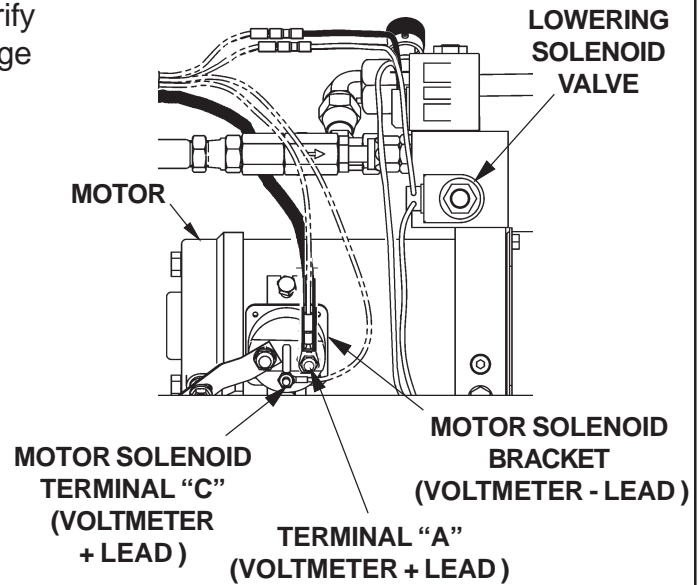

FIG. 47-1
1. Connect voltmeter between Motor Solenoid Terminal "A" and Bracket (**FIG. 47-1**) to verify that battery power is getting to "A". Recharge the battery if voltmeter indicates less than 12.6 Volts DC.
3. Check if Lowering Solenoid Valve is getting power. Connect voltmeter between Motor Solenoid Bracket and Motor Solenoid terminal "C" (**FIG. 47-1**). Push Control Switch to "LOWER" position to energize Lowering Solenoid. If voltmeter reads battery voltage (+12.6 Volts DC minimum), control circuit is operating correctly (replace Lowering Solenoid). If voltmeter reads 0 Volts, check if toggle switch and wiring are faulty.